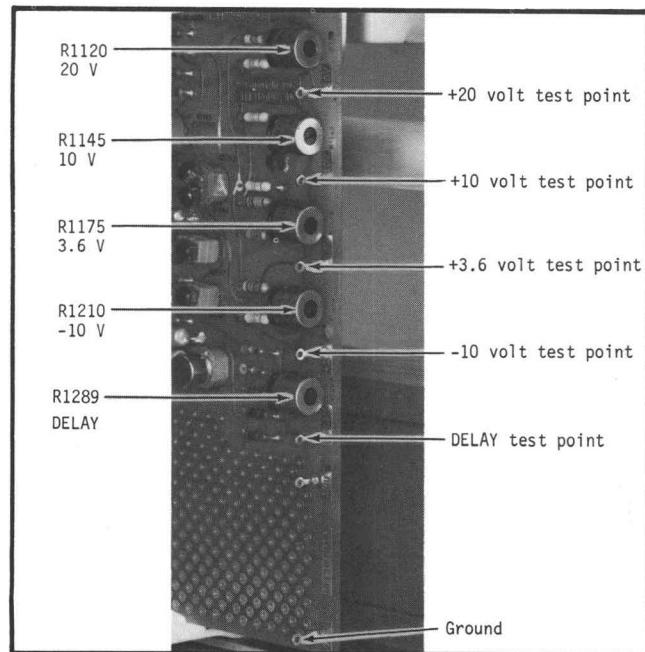

Fig. 4-2. Regulator circuit card showing voltage test points and adjustments. (DELAY is not used in the Type R250.)
- b. Connect the precision DC voltmeter from the 20 V test point to the GND test point on the regulator circuit card (see Fig. 4-2).
2. Adjust +10-Volt Regulator ①
- a. Connect the precision DC voltmeter from the 10 V test point to the GND test point (see Fig. 4-2).
3. Adjust -10-Volt Regulator ①
- a. Connect the precision DC voltmeter from the -10 V test point to the GND test point (see Fig. 4-2).
4. Adjust +3.6-Volt Regulator ①
- a. Connect the precision DC voltmeter from the 3.6 V test point to the GND test point (see Fig. 4-2).
5. Adjust +3.6-Volt Current Limiter ①
b. Connect the 1X probe from the vertical input of the test oscilloscope to the 20 V test point on the Type R250 (see Fig. 4-2). Connect the probe ground lead to the GND test point on the regulator card.